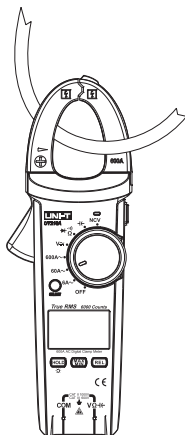

Figure 5
2. DC current measurement (UT216C only) (See Figure 5)